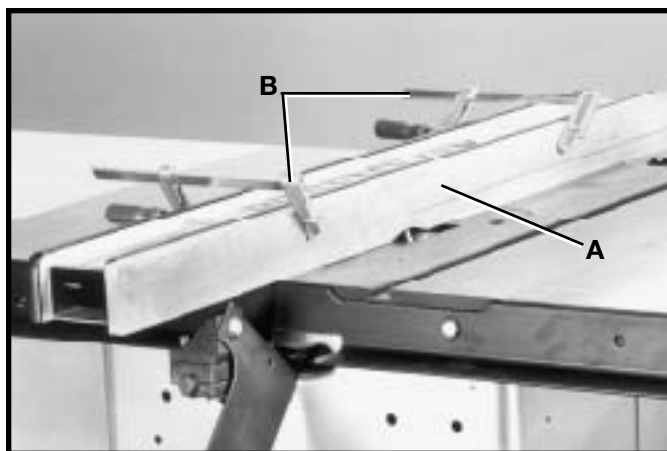

Fig. 89
It is necessary when performing special operations such as moulding to add wood facing (A) Fig. 89, to one or both sides of the rip fence, as shown. The wood facing is attached to the fence with two clamps (B). 3/4 inch stock is suitable for most work although an occasional job may require 1 inch facing.